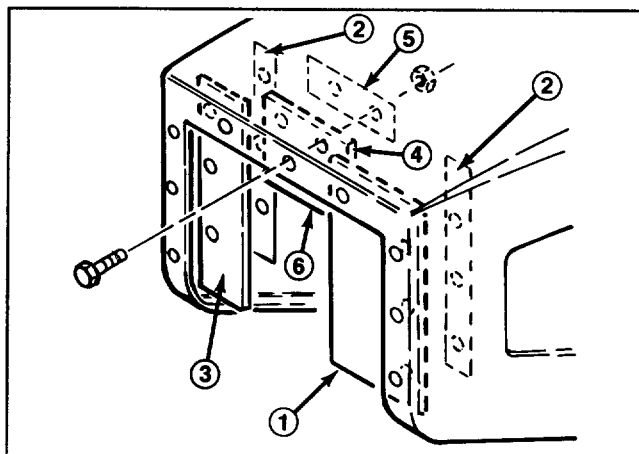

Figure 15
- Secure wide shield to right inside lip of hopper opening with a long flat, (3) #10 - 24 X 1" lg. screws and #10 - 24 flange nuts (Fig. 15).
- Secure narrow shield to left inside lip of hopper opening with a long flat, (3) #10 - 24 X 1" lg. screws and #10 - 24 flange nuts (Fig. 15).
- Cut 1-1/2" of material off bottom edge of top shield. Secure top shield to upper inside lip of hopper opening with a short flat, (2) #10 - 24 X 1" lg. screws and #10 - 24 flange nuts (Fig. 15). Use (2) mounting holes on left side of opening only.